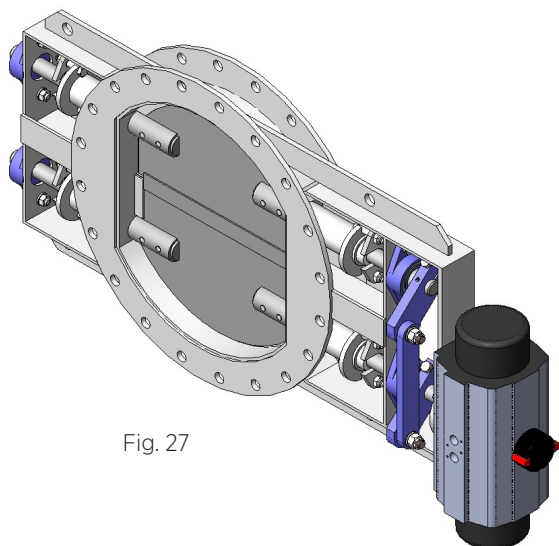

Fig. 27
- Single acting pneumatic cylinder (fig. 27) *